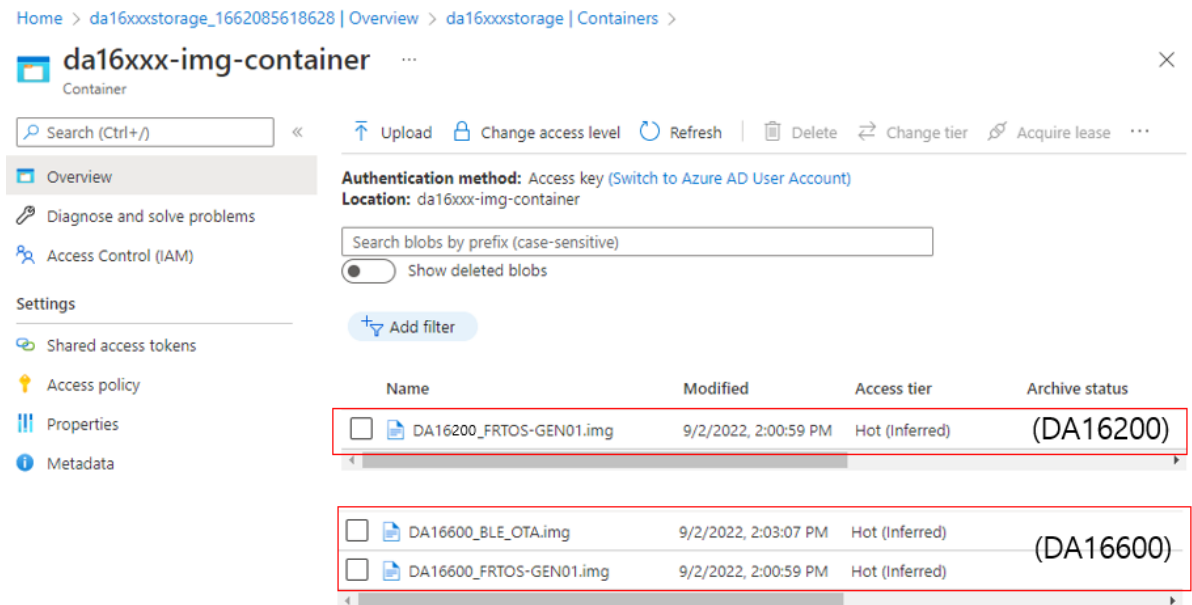

Figure 74: Uploaded Image
4. Click **Upload** and then uploaded image files are appeared as shown in Figure 74.